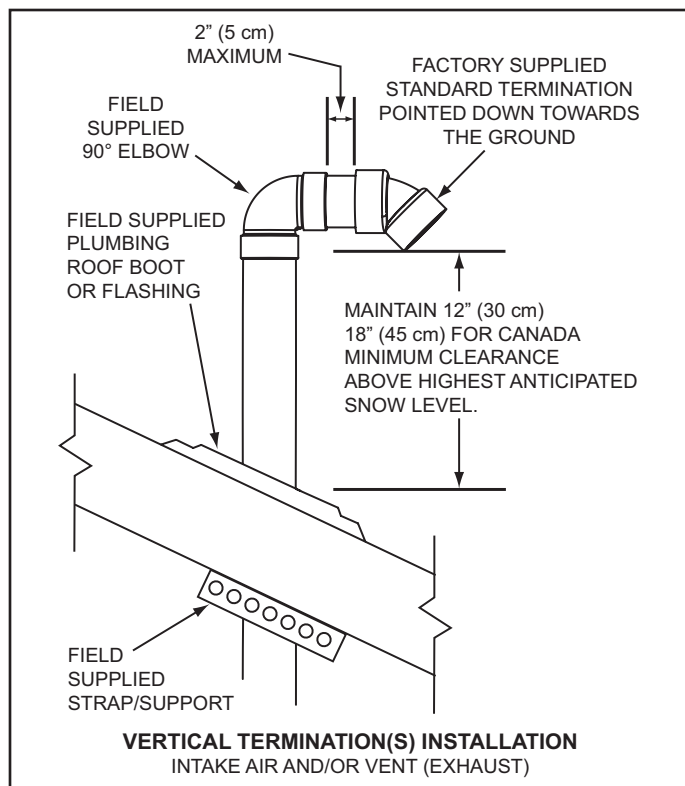
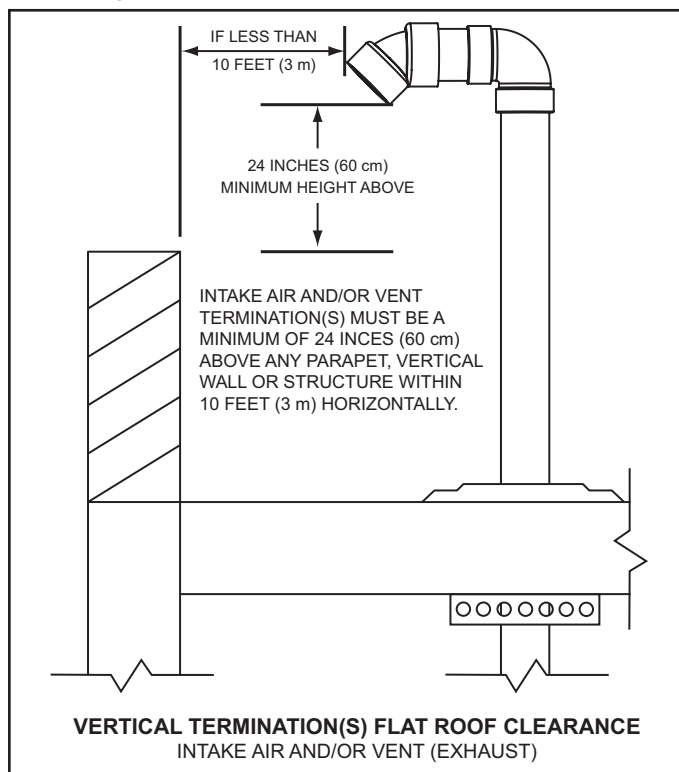
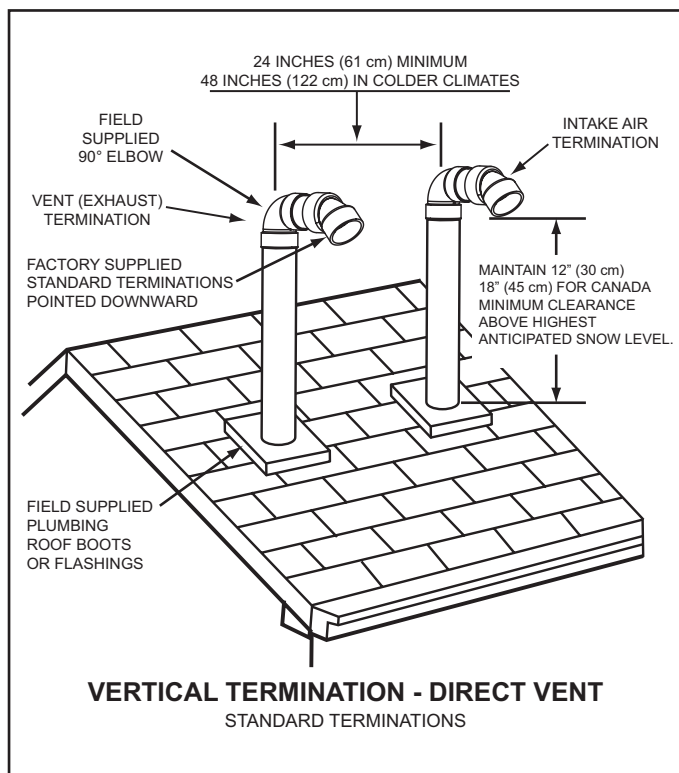

Figure 19
Figure 20
Figure 21
2. If installing only the vent (exhaust) piping in a Power Vent configuration vertically through the roof; ensure that all exterior vertical clearance requirements shown in Figure 19 and Figure 20 on page 24 are being maintained. These clearances and those cited by local and national codes must be maintained.
NOTE: On flat roof installations the vent termination must be a minimum of 24 inches (60 cm) above any parapet, vertical wall or structure within 10 feet (3 m) horizontally. See Figure 20 on page 24.
3. If installing both intake air and vent piping in a Direct Vent configuration vertically through the roof; ensure that all exterior vertical clearance requirements shown in Figure 19 and Figure 20 on page 24 are being maintained. These clearances and those cited by local and national codes must be maintained.
NOTE: On flat roof installations the intake air and the vent terminations must be a minimum of 24 inches (60 cm) above any parapet, vertical wall or structure within 10 feet (3 m) horizontally. See Figure 20 on page 24.
The vent termination must be oriented facing downward as shown in Figure 19 and Figure 20 on page 24.
The bottom edge of the vent termination must be a minimum of 12 inches (30 cm), 18 inches (45 cm) in Canada, above the average or expected snow level as shown in Figure 19 on page 24.
The intake air and vent pipes must penetrate the same side of the roof as shown in Figure 21 on page 24.
The intake air and vent terminations must be oriented facing downward and in the same direction as shown in Figure 21 on page 24.
The intake air and vent terminations must have a minimum separation of 24" (61 cm) measured on center line as shown in Figure 21 on page 24. In colder climates this separation should be increased to at least 48 inches (122 cm).
The bottom edge of the intake air and vent terminations must be a minimum of 12 inches (30 cm), 18 inches (45 cm) in Canada, above the average or expected snow level as shown in Figure 19 and Figure 21 on page 24.
The distance between the closest vent and intake air terminations must be a minimum of 24 inches (61 cm) as shown in Figure 21. In colder climates this separation should be increased to at least 48 inches (122 cm).
8. Suspend the pipe(s) through center of hole using field supplied metal strapping or equivalent support materials as shown in Figure 19.
9. Slide a roof boot or equivalent flashing over the pipe and secure roof boot or equivalent flashing to roof (see Figure 19) and seal around the flashing.
10. Install the factory supplied intake air and/or vent termination(s) using field supplied pipe and one field supplied 90° elbow as shown in Figure 19. The short section of pipe that connects
between the field supplied 90° elbow and the factory supplied termination must not be excessive in length. The exposed portion of this pipe shall be no more than 2 inches (5 cm), see Figure 19.